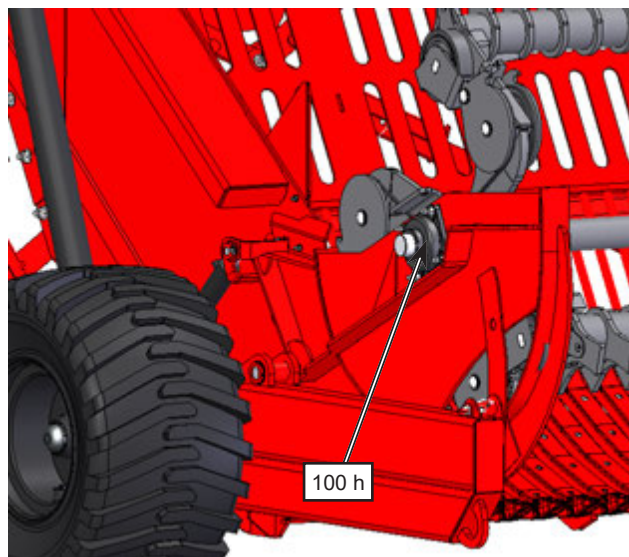

Figure 6.15: Grease the reel bearing - right side
- a. 2 grease points; see *Figures 6.15* and *6.16*.